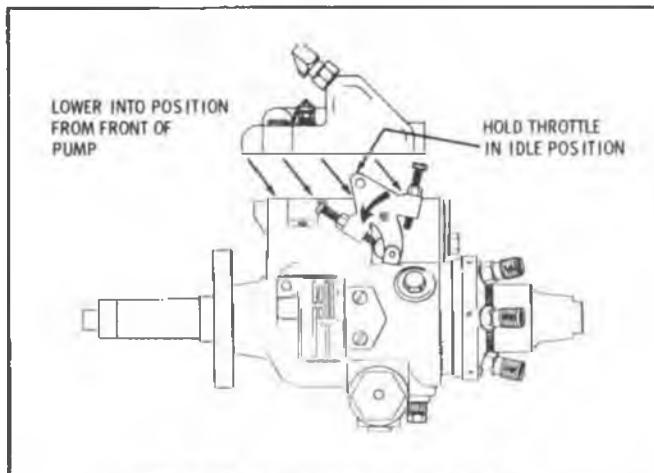

Fig. 2-35 Governor Cover Installation
20. Install governor cover with new governor cover gasket. (Fig. 2-35). Test solenoid with 12 volts, listening for audible click when energized. If no click can be heard, remove and reinstall cover and retest until click can be heard signifying proper shut off operation. Without the click the metering valve would be jammed open and if the engine were started, an instant runaway engine would result.